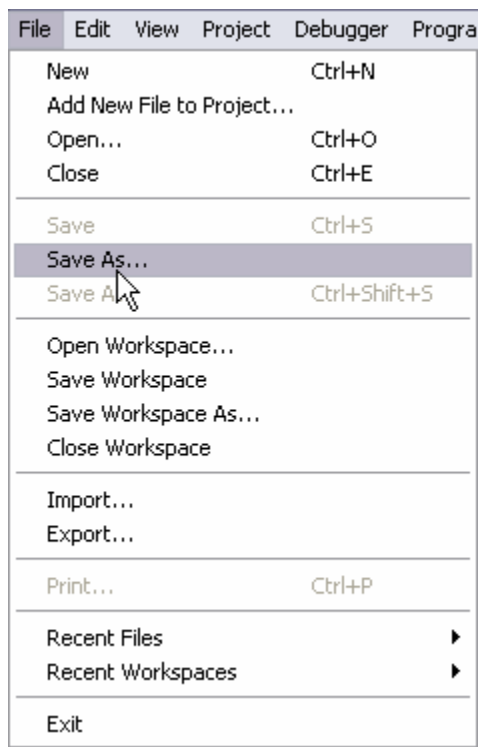

Figure 14: Saving a Source File
Step 11: To save the file select "File" -> "Save As..." (Figure 14).